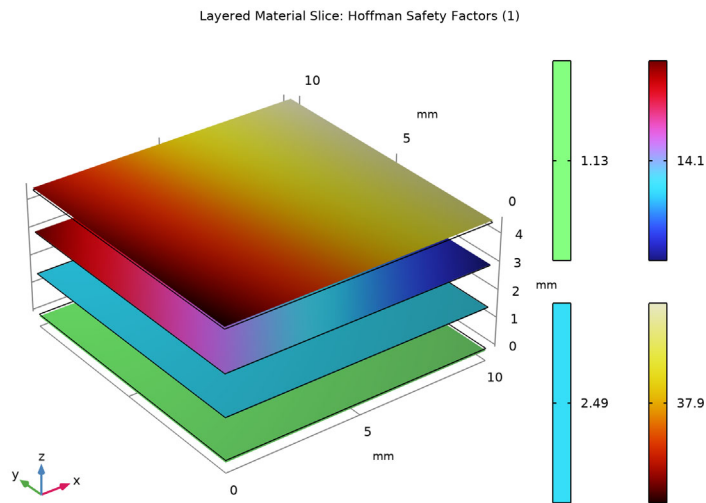

Figure 3: Hoffman safety factors at ply midplanes for the laminated composite shell.
For many industrial applications, the safety factor (SF) is more useful than the failure index (FI). The safety factor (or reserve factor) gives a direct indication of how close the component is to failure. Figure 3 shows the Hoffman safety factor (SF) at the midplane for the different plies. Ply 1 (90-degree ply) is close to failure as expected because of its orientation, where fibers are perpendicular to the loading direction. The von Mises stresses